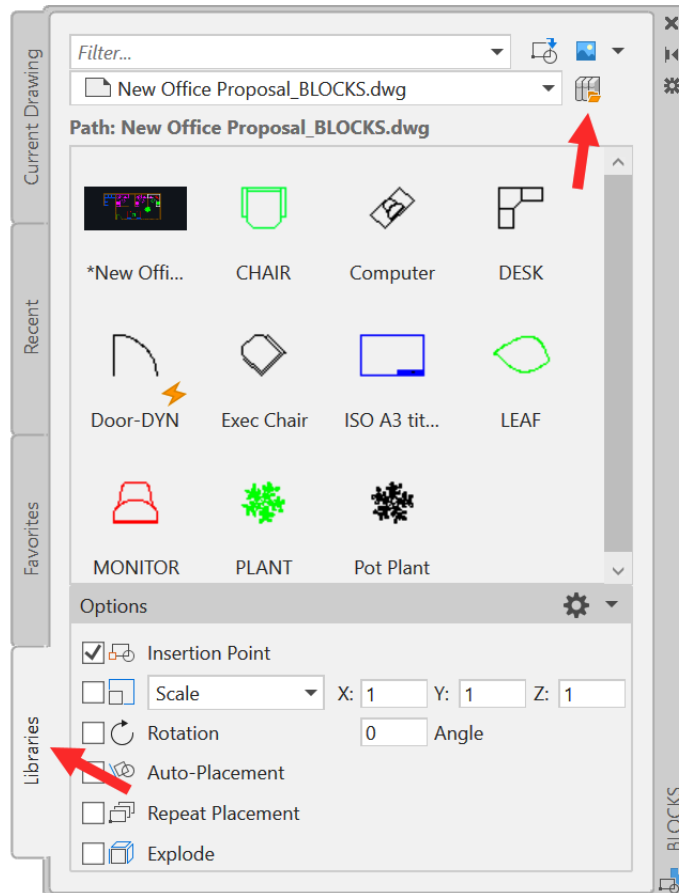

Figure 9.21: The Blocks palette with the Libraries tab current
3. Select **Blocks from Libraries...** on the dropdown, and the **Blocks** palette will open with the **Libraries** tab current, as shown in *Figure 9.21*.
4. To add **Architecture-LIBRARY.dwg** to the library list, you need to click on the small icon top-right in the **Blocks** palette. It looks like a little line of books and is arrowed in *Figure 9.21*.